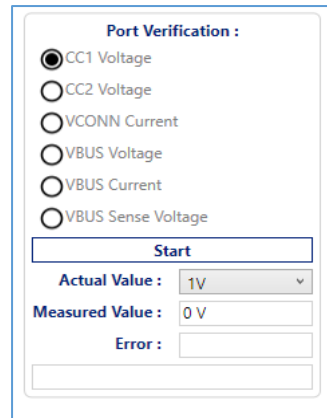

FIGURE 4.3: MEASUREMENT CHANNELS FOR MANUAL PORT VERIFICATION
3. There are six measurement channels per port (see Figure 4.3) and their voltage/current ranges are as specified in Section 3.2.